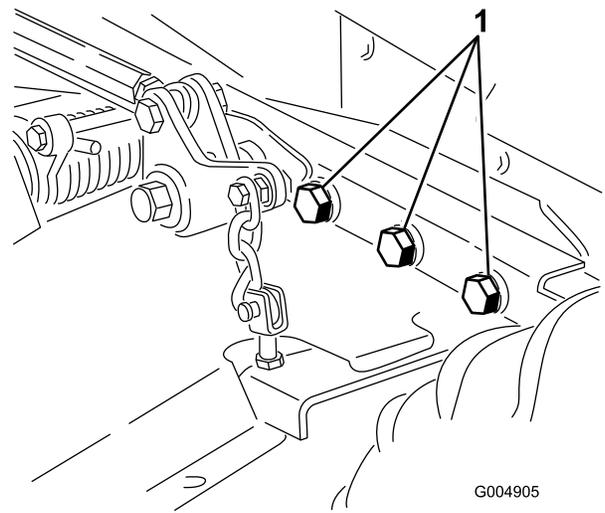

Figure 59
5. Check all fasteners for looseness and tighten them as necessary. Torque the 6 bolts securing the mower deck frame to the traction unit (Figure 59) to 359 N·m (265 ft-lb).